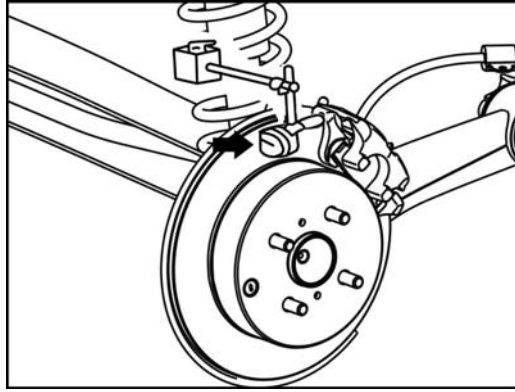

Fig.2-68
① Mark on the brake disc and wheel hub.
② Take off the brake disc.
① Temporarily tighten the brake disc. Tightening torque: 103N·m.
② Measure the swaying of brake disc at 10mm away from the outer edge of brake disc by a dial indicator. See Fig. 2-68. Max: 0.05mm.